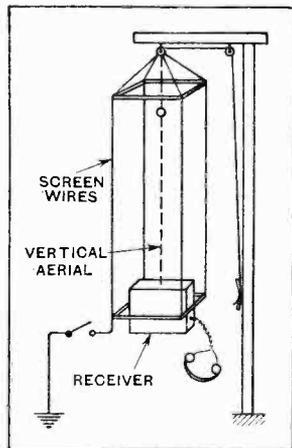
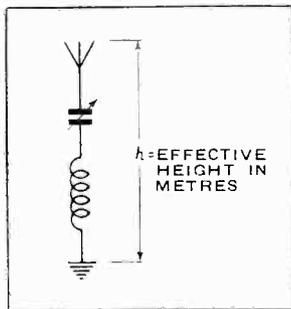
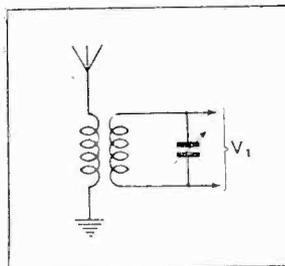

Fig. 3.—The adjustable wire screening cage surrounding a vertical aerial which was used in experiments to demonstrate the screening effect of masts.
Fig. 1.—Simple tuned circuit, possessing moderately flat tuning and suitable for use in a receiver giving good quality local reception.
Fig. 2.—Owing to aerial resistance, this circuit may be reasonably flatly tuned.
In the case of receiving aerials these facts may be simply demonstrated by arranging two aerials in the manner shown in Fig. 2. With aerials of 20 to 40 feet in height set at about 3 or 4 feet apart it will be found that the signals from, say, 2LO received on one of the wires will be unaffected in strength by the earthing or tuning of the other wire. When the distance between the wires is decreased to less than a foot, the earthing of one wire in the untuned condition produces a definite decrease in the signal intensity received on the other wire. As the height of the screening wire is increased relative to that of the receiving aerial, the screening effect becomes more and more marked. The reduction in signal strength is also considerably increased by using a cage of several screening wires. For example, in an experiment carried out some two or three years ago a vertical aerial 40 feet high was erected inside a cage formed of vertical wires fixed at the top and bottom to the sides of a wooden frame five feet square erected round the aerial in the manner shown in Fig. 3. Both the aerial and cage were supported by pulley arrangements, so that either could be raised or lowered at will. With the cage formed of four wires only and hauled up so that it projected about two feet above the top of the aerial the screening effect
32 equally spaced along the sides of the five-foot square frame, sketched in Fig. 3. In this condition the screen was very effective, and, when connected to earth in the untuned condition, rendered it very difficult to receive any audible signals on the enclosed vertical aerial.
aerial circuit of the type shown in Fig. 1, or a variation as illustrated in Fig. 2. Now, the tuning is usually flat enough for all practical purposes. If it is not, a resistance can easily be inserted in the earth lead; Nature usually accommodates us in practice by having it there beforehand. The aerial will therefore feed to the rectifier  $V_1$  a carrier wave accompanied by a pair of unattenuated side bands, so that all audiofrequencies will be represented
The reader will ask: What has this got to do with gain per stage? Well, the inductance coil tuning the aerial acts as an amplifier, since in general the voltage across it is greater than that induced in the aerial by the incoming wave. Let us turn to Fig. 3, which is equivalent to Fig. 1. The electromagnetic waves induce in the aerial a voltage  $V = vh$  where  $v$  is the voltage gradient per metre down the aerial, and  $h$  is the effective electrical height of the aerial.  $V$ , the induced voltage, acts on the aerial as on an oscillatory circuit, at resonance, and sends a current ( $I$ ) through it equal to
Fig. 3.—The equivalent circuit of a tuned aerial system comprising capacity (C), inductance (L) and resistance (R) in which the electromagnetic waves are represented by the alternating current generator. The voltage induced (V) is the product of the voltage gradient per metre down the aerial (v) and effective aerial height (h).